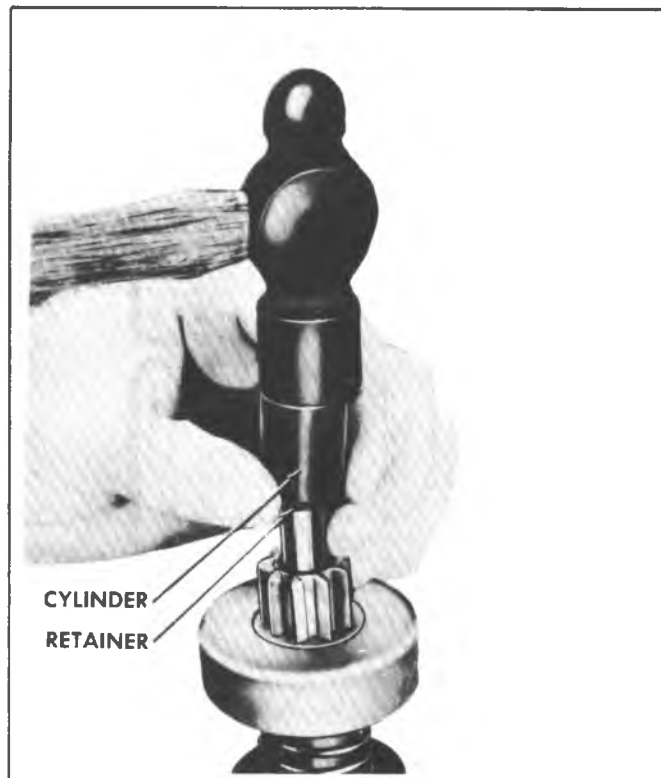

Fig. 6D-15E--Forcing Snap Ring Over Shaft
5. Measure the distance between pinion and pinion stop (Fig. 6D-17E).
#### STARTER-DIESEL ENGINE-20 MT MOTOR (FIG. 6D-19E)
##### Starter Disassembly 20MT Motor (Fig. 6D-19E)